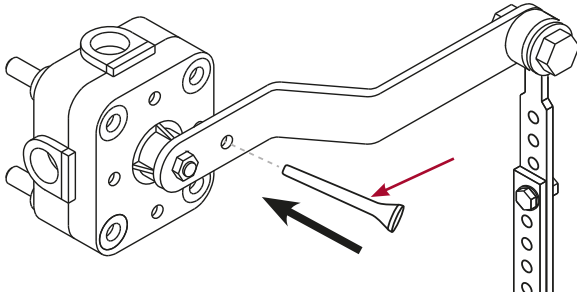

Figure 179: Insert Wooden Dowel
7. If not already fitted, install wooden centring pin to hold valve in neutral position. Refer Figure 179.